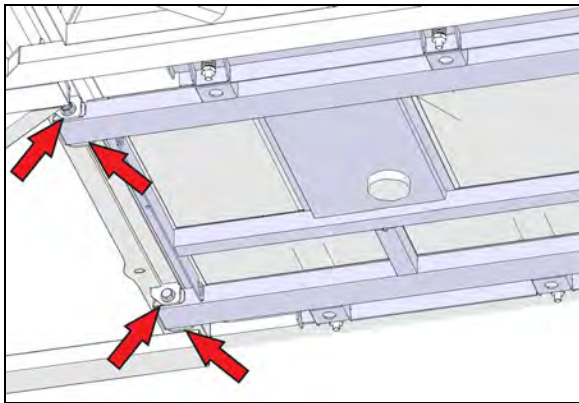

FIGURE 21: SPECIFIC MOUNTING POINTS TO BE INSPECTED
2. Carefully inspect fuel cradle mounting bolts, 2 bolts (Figure 21).